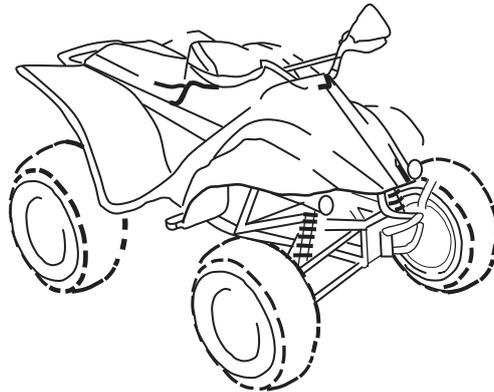

Fig. 3(a)
- 3 **Fig. 3(a)** shows a diagram of an off-road quad bike. Behind the guards and casing the clutch, cam, linkages, chain and sprocket, gears, couplings and shafts combine to provide an exciting product.